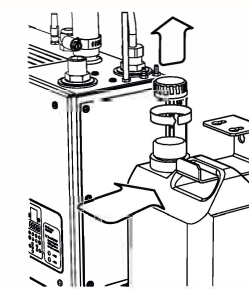

Fig 17a
2. Place the soap container onto the soap bracket to the right of the control module, ensuring the cap is outermost (See figure 17a).